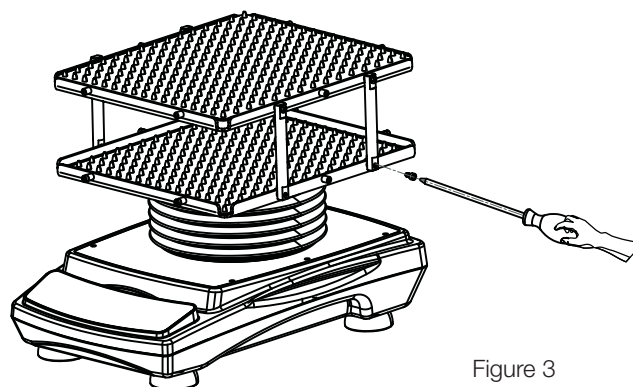

Figure 3
3. Fasten the screw for rubber strip on the two trays as shown in the figure 3.